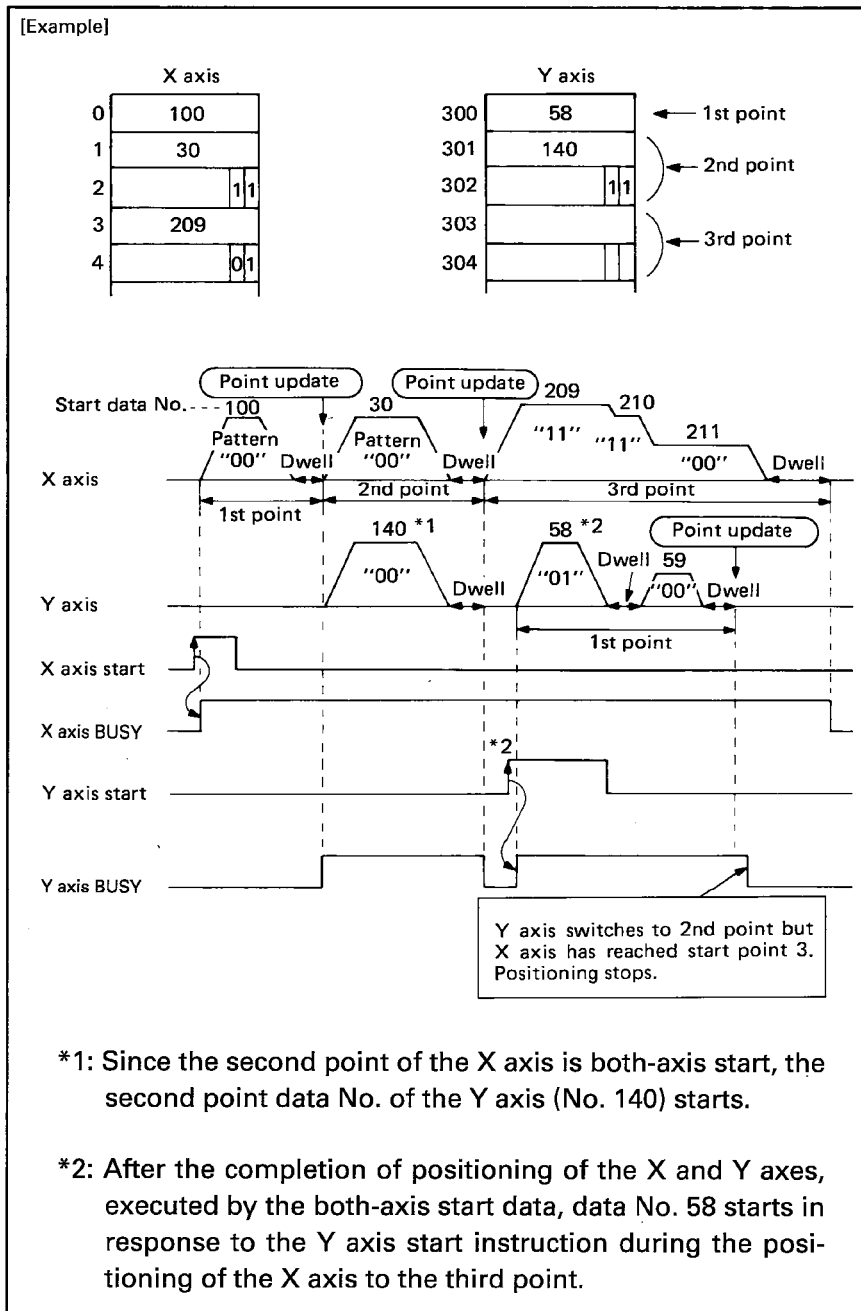

Fig. 2.36 Start Data Example 6
- Processing will stop if one axis proceeds ahead of the other and dual axis processing is called. See Fig. 2.36.